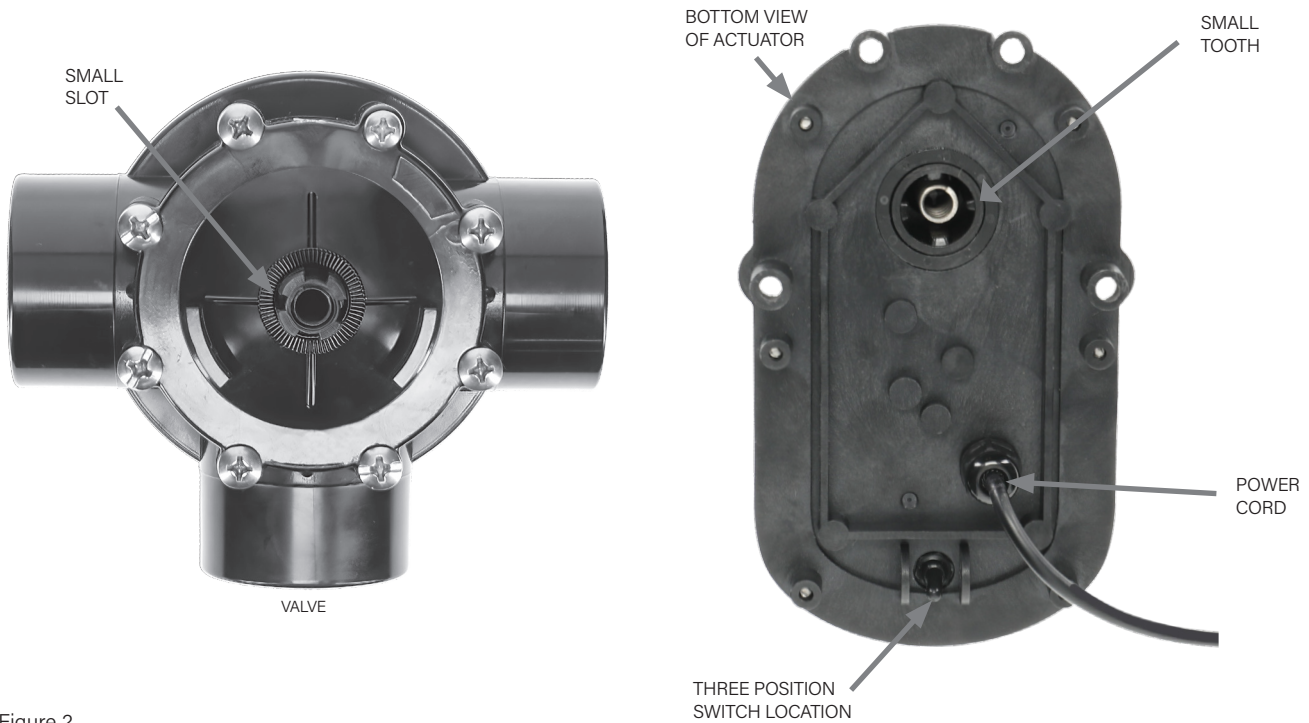

Figure 2.
3. Turn the actuator over and observe the teeth as shown in Figure 2.
4. Place the actuator over the valve shaft so the small tooth engages with the small slot in the valve shaft. See Figure 2.
6. Use the (4) supplied long stainless steel screws to attach the actuator to the valve.